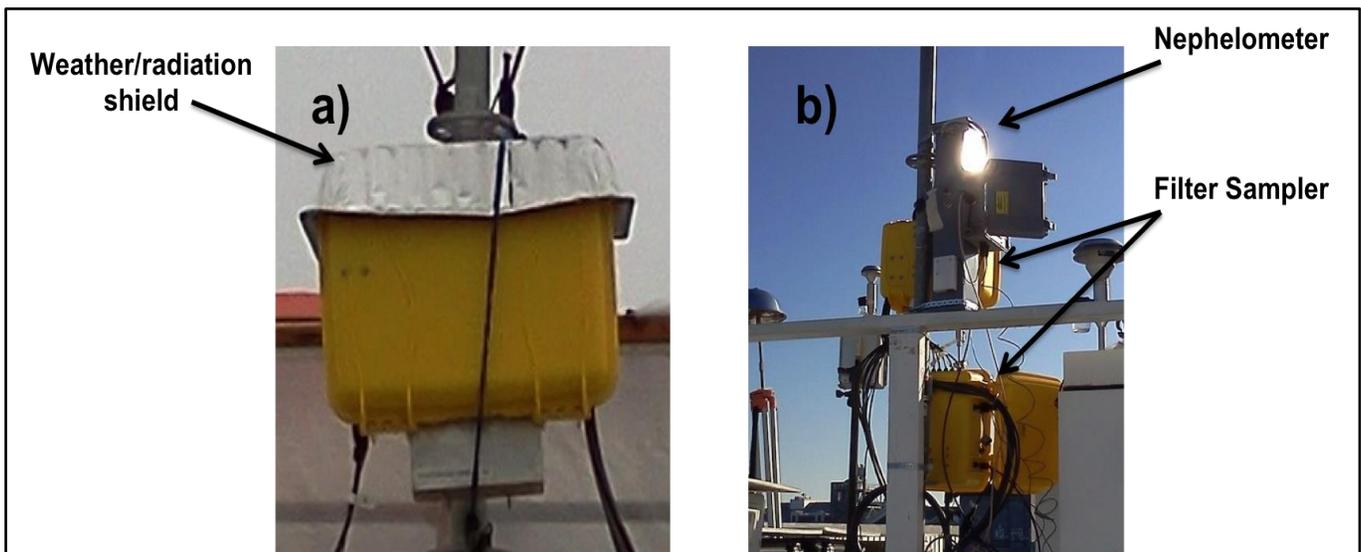
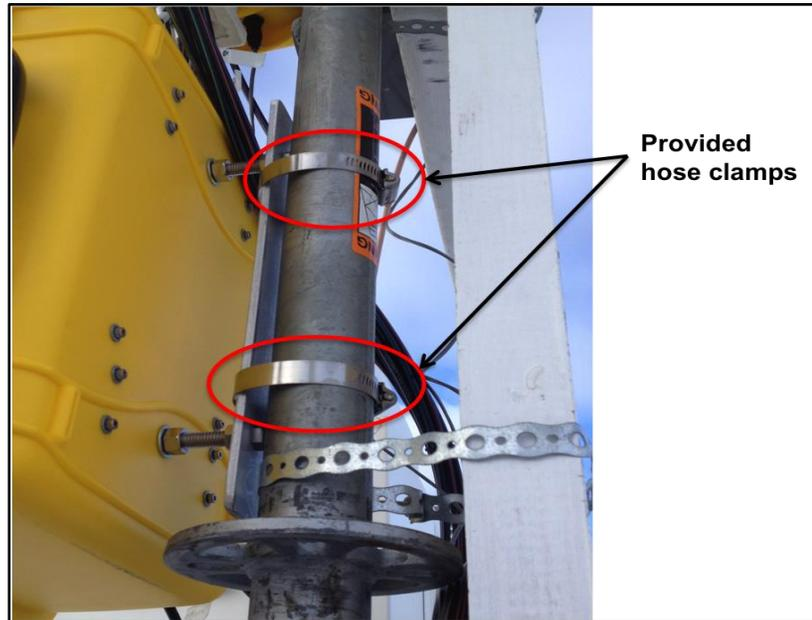

Figure 2: a) Example of weather/radiation shield. b) Positioning of the filter sampler and nephelometer on the same pole.
Figure 3: Example of using the metal bar on the back of the sampler cases to attach to a preassembled pole using the provided hose clamps.
- Weather/radiation shield that is silver or white in color with dimensions of at least 6 cm deep x 8 cm wide x 14 cm long, such as an aluminum cover (or plastic container) shown in Figure 2
The sampler has a metal bar attached to the back of each case; use this to attach the sampler to the pre-assembled pole with the provided hose clamps (Figure 3). It may also be effective to use a durable strap (e.g. cloth or zip-tie) to provide extra support for the sampler. Utilization of the strap may be especially important if a pole of appropriate diameter (Section 3.1) was unable to be located. After the samplers are secure attach the weather/radiation shields. Please refer back to Figure 2 for an example of the final set-up of the SPARTAN filter-based sampler.
The same height restrictions apply to the nephelometer as that for the filter-based sampling cases. The nephelometer can be bolted to a wooden platform or also attached to a pole using the provided hose clamps. It is important that the inlet and outlet are situated such that they cannot be blocked in the case of a snow, sand, or water. The nephelometer can be attached to the same pole as the filter-based sampler, however, it is important to ensure that the nephelometer outlet is situated away from the inlet valves of the filter-based sampler and vice versa. Please refer to Figure 2 for an example illustration of the final set up of the SPARTAN filter-based sampler and nephelometer.